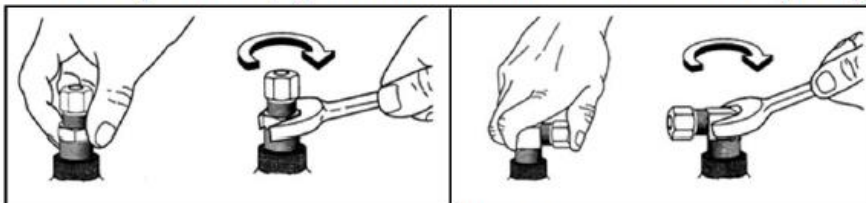

Figure 2
2.1.5 Tighten the fitting by hand (see figure 2).
2.1.6 Using a wrench, tighten an additional 1-1/2 to 2-1/2 turns (see figure 2).